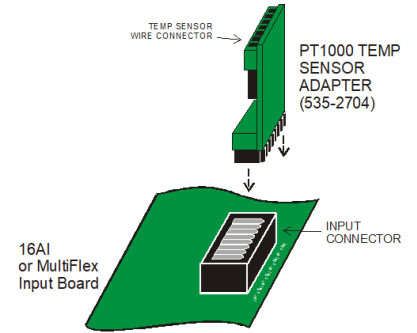

Figure 1: PT1000 Temp Sensor Adapter
4. Plug the PT1000 Temp Sensor Adapter into an 8-pin connector on the input board, as shown in **Figure 1**.